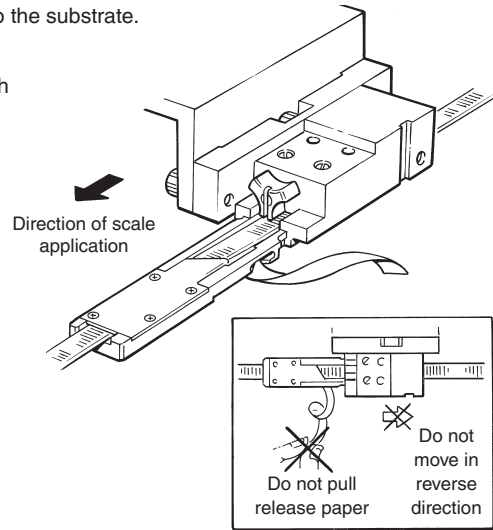

Figure 2d Scale laying
- As shown in Figure 2d, traverse axis through full travel at a steady slow speed to adhere scale to substrate while simultaneously ejecting the backing paper.